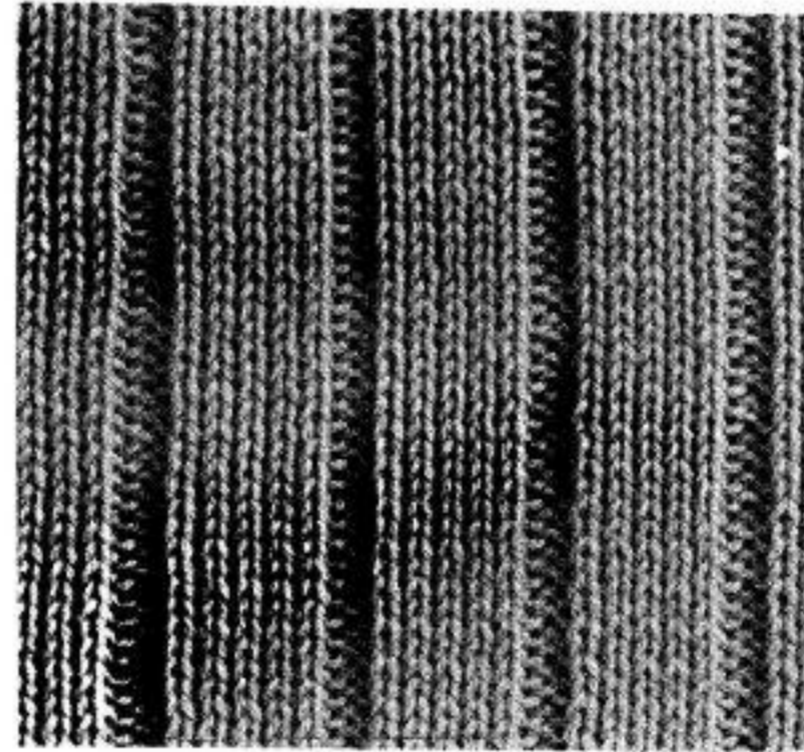

Fig. 65
**Pattern No. 4 (K5 P2 Rib)** ..... Fig. 65